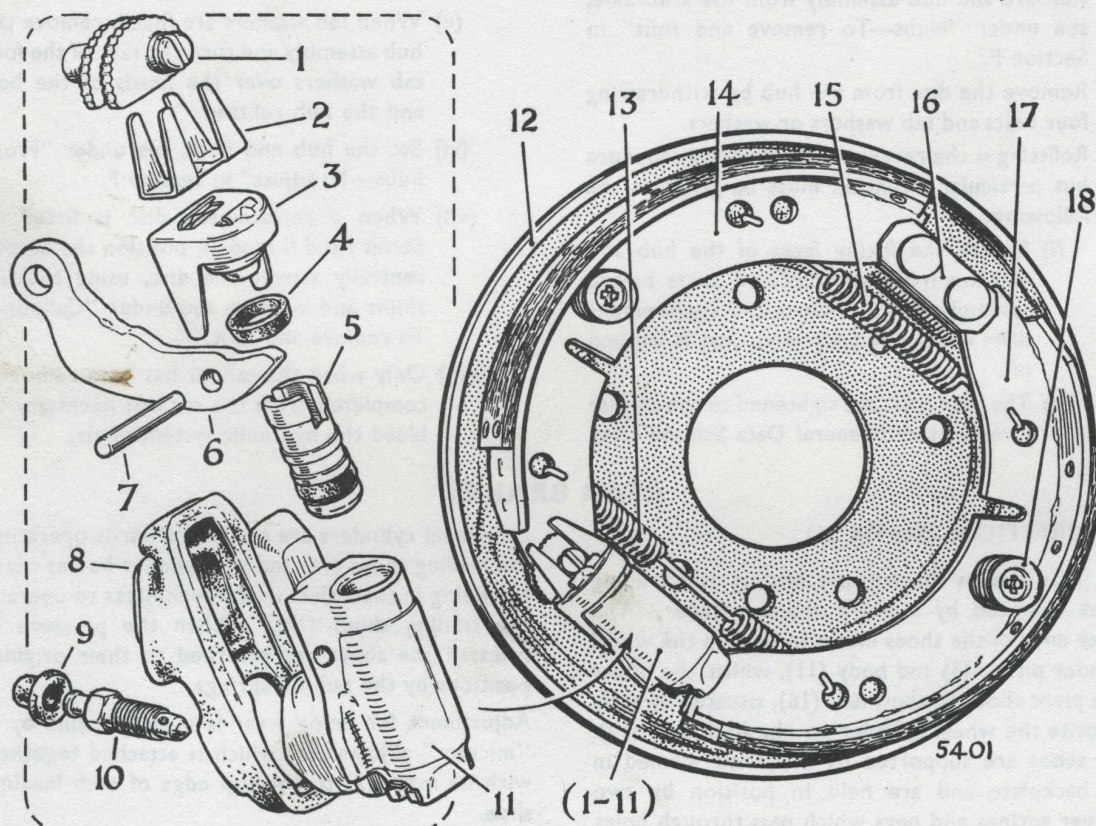

Fig. 16. Exploded view of rear brake—right-hand side illustrated
DESCRIPTION (See Fig. 16)
turning the "micram" adjuster anti-clockwise to the full extent using a screwdriver. (See Fig. 10). Remove the brake drum and distance piece, when fitted, from the axle flange by withdrawing a countersunk screw. A light blow on the side of the brake drum will loosen it and facilitate removal. Release the damper spring assemblies (item 18, Fig. 16) by depressing the cups and turning the pegs through ninety degrees. The pegs may be withdrawn from the rear of the backplate.
To refit (See Fig. 16)
WHEEL CYLINDERS (See Fig. 16)
To dismantle (See Fig. 16)
To reassemble (See Fig. 16)